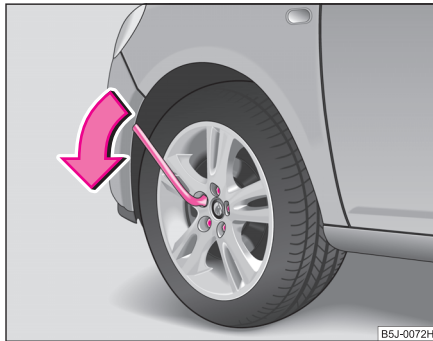

Fig. 159 Changing a wheel: Slackening wheel bolts
- Grasp the end of the wrench and turn the bolt about **one** turn to the left ⇒ **fig. 159**.